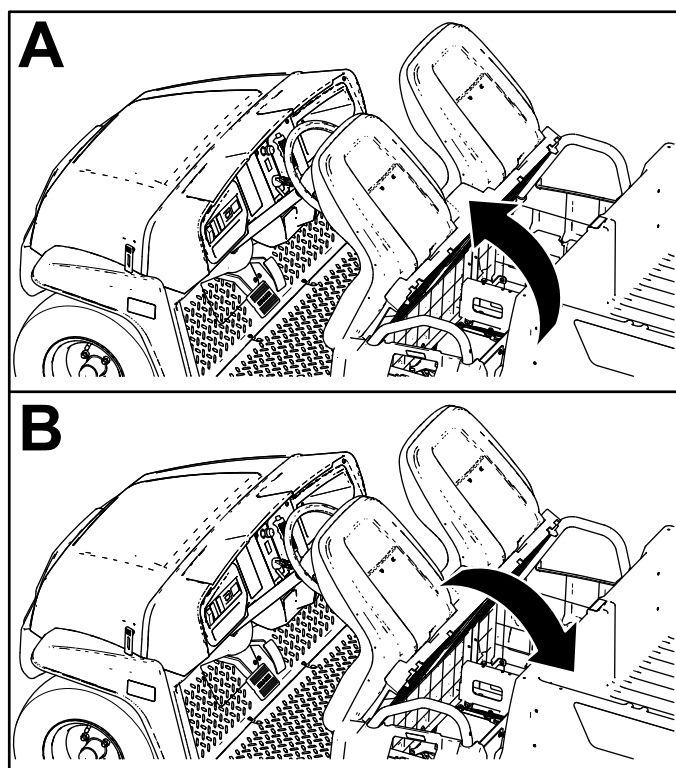

Figure 32
To raise the seat assembly, push the seat assembly forward until it rests on the steering wheel (Figure 32).
To lower the seat assembly, push the seat assembly rearward until it seats back into the original position (Figure 32).
1. Push the seat assembly forward to the raised position (Figure 32).